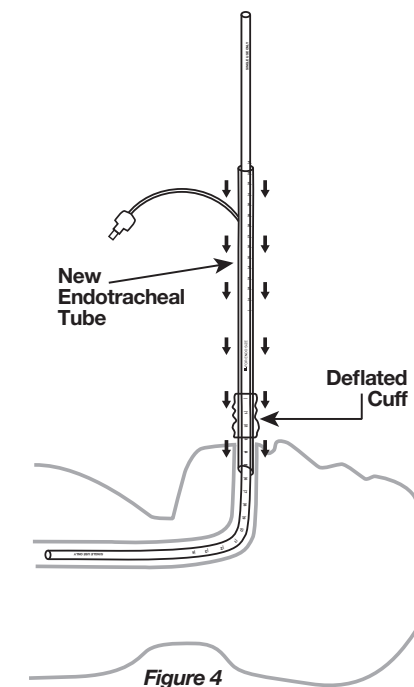

Figure 4
8. While continuing to stabilize the JEM Endotracheal Tube Changer, pass the NEW endotracheal tube over the JEM Endotracheal Tube Changer (Figure 4) until the **PROXIMAL END** of the endotracheal tube is aligned with the **PROXIMAL MARK**, or the **CORRECTED PROXIMAL MARK** (if **Corrective Allowance** has been made for a shortened tube) on the Changer. Ensure that the Changer is in the original position, based upon the **GUIDE MARK** at the lip or nostril, prior to setting final depth of endotracheal tube (Figure 5).